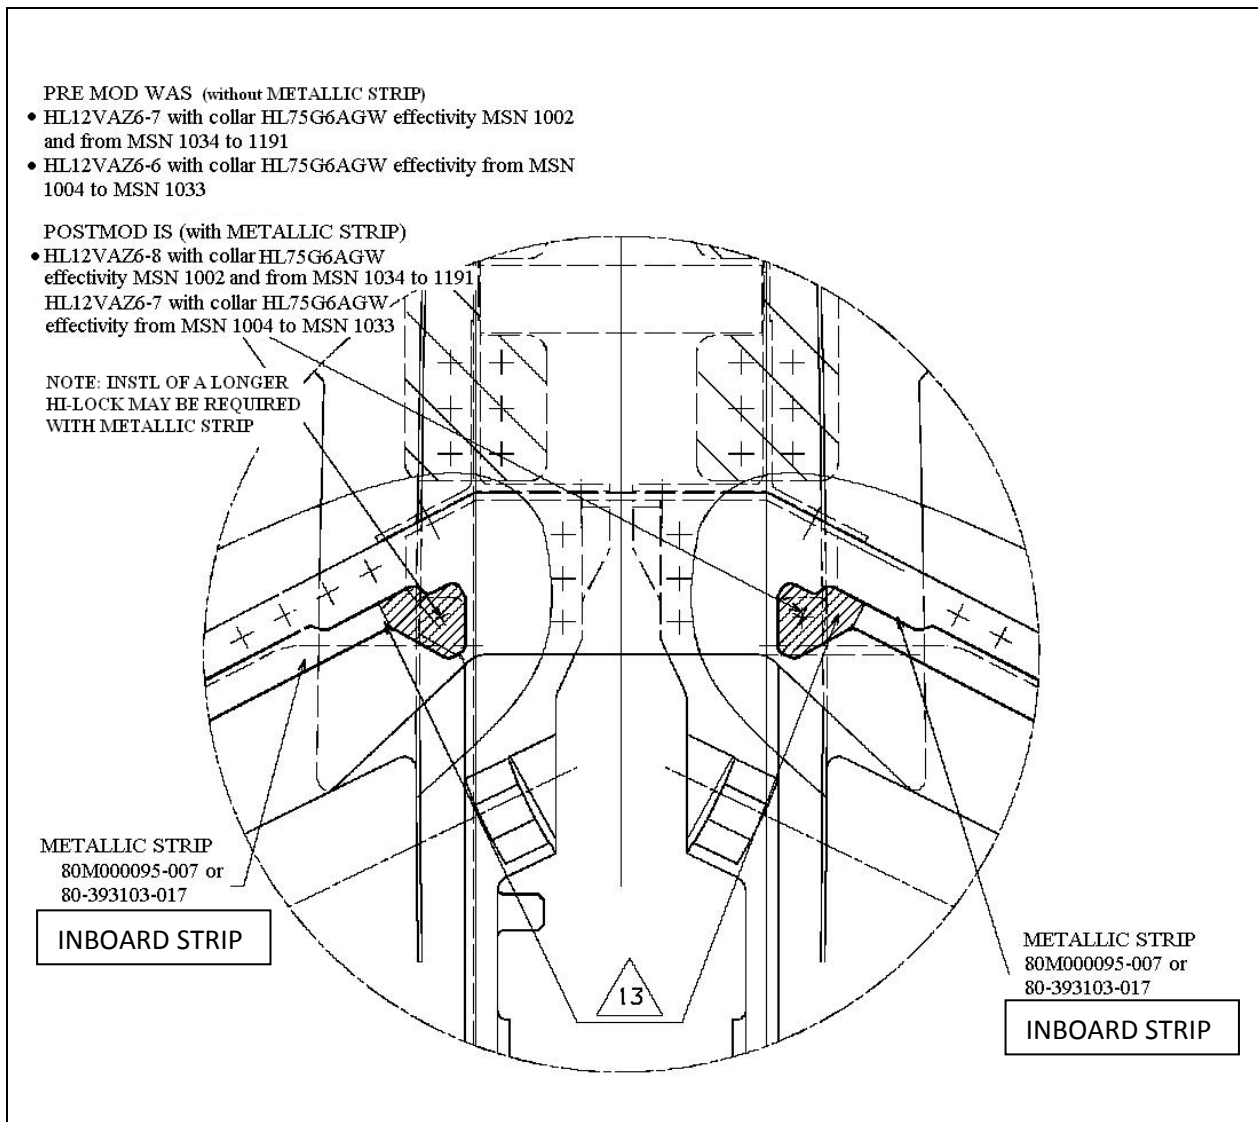

Fig. 12– Detail of inboard strip installation
- 42 With reference to fig. 12
- 43 With reference to fig. 12: